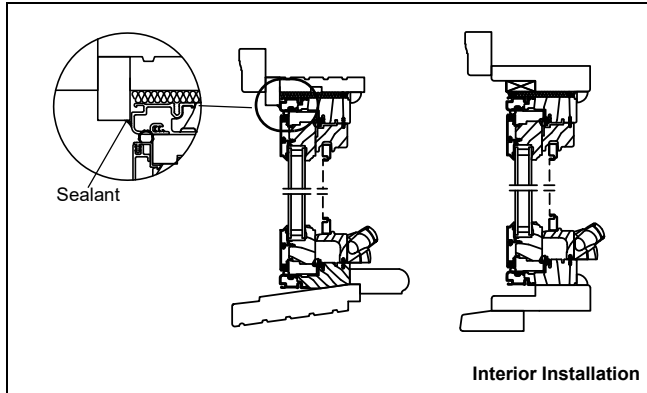

Figure 10
- Trim out the sill, if necessary, with frame expander or treated wood leaving a gap to weep incidental moisture. Apply a bead of sealant between the insert unit frame and existing frame blind stop. See figure 10.